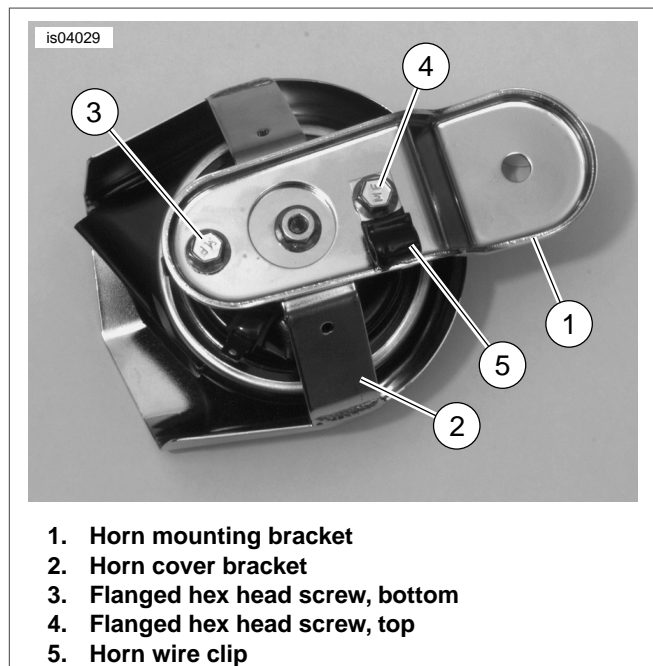

Figure 2. Horn Mounting Bracket Installation
6. Push the two speed nuts (7) from the kit over the holes in the top and bottom ears of the horn cover bracket.
7. See Figure 2. Align the horn mounting bracket (1) over the speed nuts on the horn cover bracket (2). Install one of the flanged hex head screws (3) from the kit through the bottom speed nut.
8. Insert the remaining screw (4) through the hole in the horn wire clip (5), and secure the screw to the top speed nut. Tighten the screws to 5-8 **in-lbs** (.56-.90 Nm).